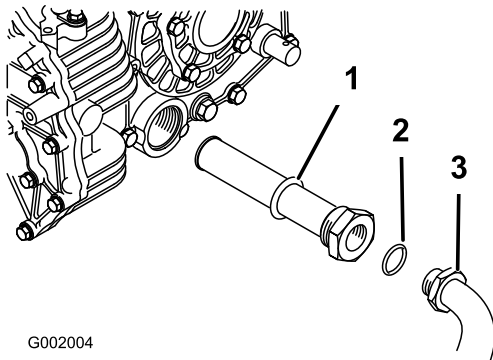

Figure 69
- Remove the hydraulic hose and 90 degrees fitting (Figure 69).